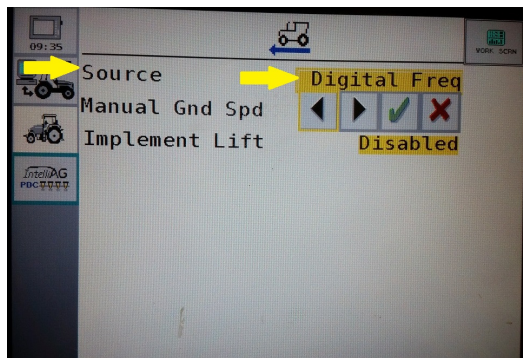

Figure 56
Step 12. Select **Source** and change back to **Digital Frequency**. (Figure 56)